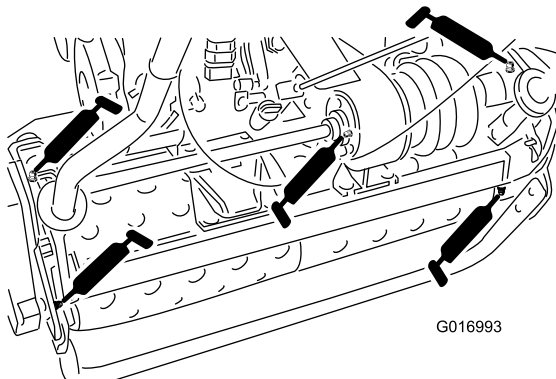

Figure 19
- 2 on the drum axles (Figure 19)
- 3 on the differential (Figure 19)